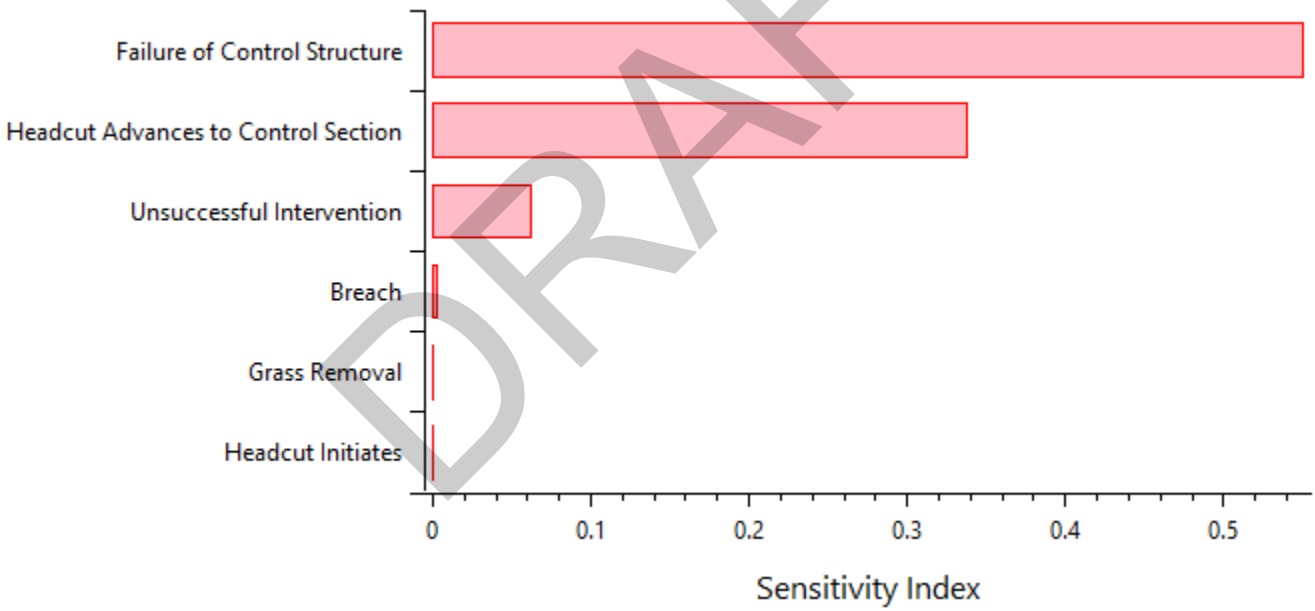

Figure 95 – Event tree diagnostics tree node sensitivity indices.
- **Sensitivity Index** Displays each node's first-order sensitivity index, or main effect index (Figure 95). This is the contribution to the output variance. It measures the effect of varying a single node but averaged over variations in other input parameters. It is standardized by the total variance to provide a fractional contribution. A node with a high sensitivity index is a good indicator that reducing the nodes uncertainty will have a large impact on the overall SRP [10, 1].